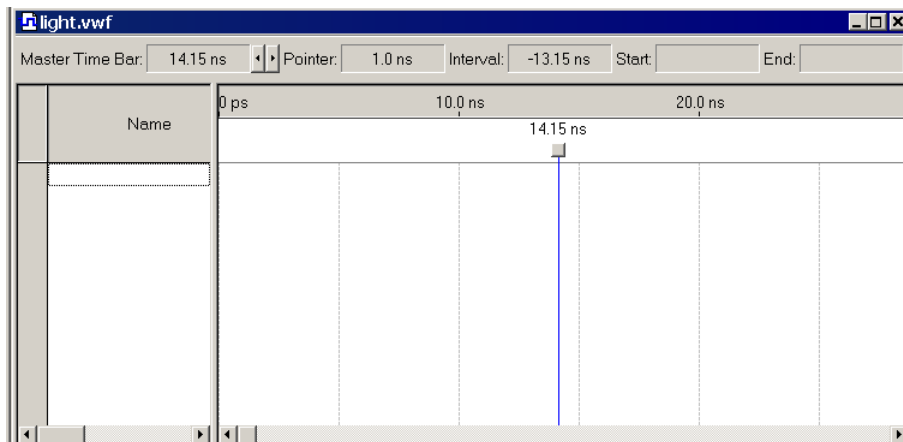
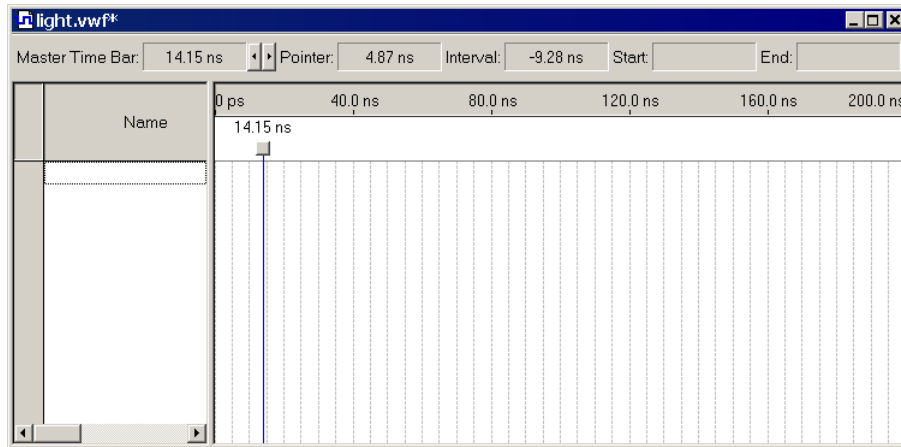

Figure 32. The Waveform Editor window.
Figure 33. The augmented Waveform Editor window.
2. The Waveform Editor window is depicted in Figure 32. Save the file under the name *light.vwf*; note that this changes the name in the displayed window. Set the desired simulation to run from 0 to 200 ns by selecting **Edit > End Time** and entering 200 ns in the dialog box that pops up. Selecting **View > Fit in Window** displays the entire simulation range of 0 to 200 ns in the window, as shown in Figure 33. You may wish to resize the window to its maximum size.